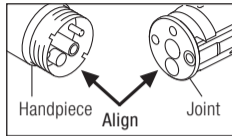

Fig. 48
- 4 Mount the joint into the handpiece. Make certain the pipe is aligned. (Fig. 48).